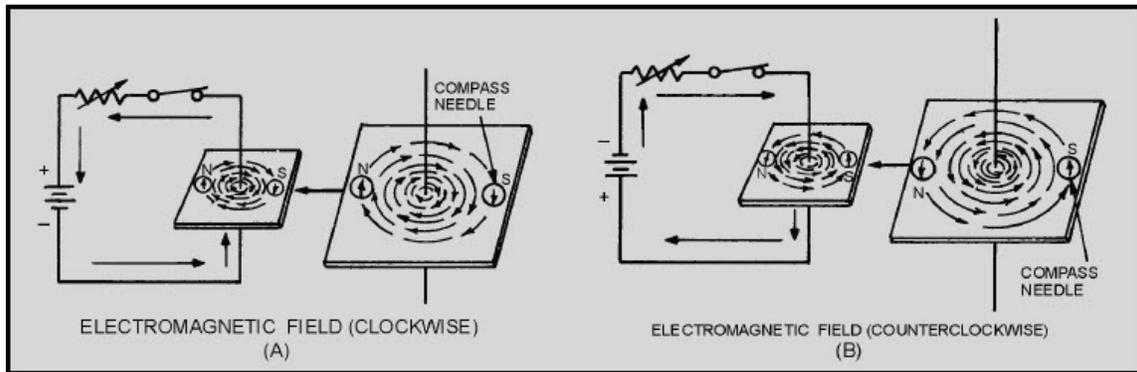

Figure 1-2 Magnetic field around a current-carrying conductor
If a compass is placed in the vicinity of a current-carrying conductor, the compass needle will align itself at right angles to the conductor, thus indicating the presence of a magnetic force. You can demonstrate the presence of this force by using the arrangement illustrated in figure 1-2. In both (A) and (B) of the figure, current flows in a vertical conductor through a horizontal piece of cardboard. You can determine the direction of the magnetic force produced by the current by placing a compass at various points on the cardboard and noting the compass needle deflection. The direction of the magnetic force is assumed to be the direction in which the north pole of the compass points.
In figure 1-2 (A), the needle deflections show that a magnetic field exists in circular form around the conductor. When the current flows upward (see figure 1-2(A)), the direction of the field is clockwise, as viewed from the top. However, if you reverse the polarity of the battery so that the current flows downward (see figure 1-2(B)), the direction of the field is counterclockwise.
The relation between the direction of the magnetic lines of force around a conductor and the direction of electron current flow in the conductor may be determined by means of the **LEFT-HAND RULE FOR A CONDUCTOR**: if you grasp the conductor in your left hand with the thumb extended in the direction of the electron flow (current) ($-$ to $+$), your fingers will point in the direction of the magnetic lines of force. Now apply this rule to figure 1-2. Note that your fingers point in the direction that the north pole of the compass points when it is placed in the magnetic field surrounding the wire.
Figure 1-2 shows that the direction of the magnetic field around a straight wire depends on the direction of current in that wire. Thus, a reversal of current in a wire causes a reversal in the direction of the magnetic field that is produced. It follows that a reversal of the current in a coil also causes a reversal of the two-pole magnetic field about the coil.